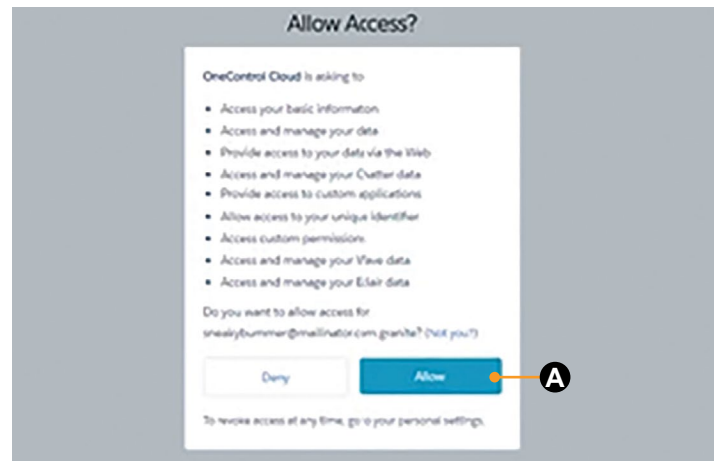

Fig.70
5. A pop-up window (Fig.70) asking for permission for the OneControl Cloud to access your ConnectAnywhere system will appear.